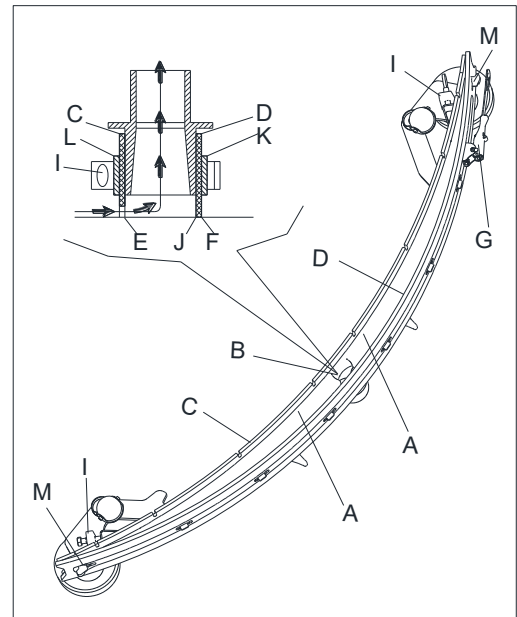
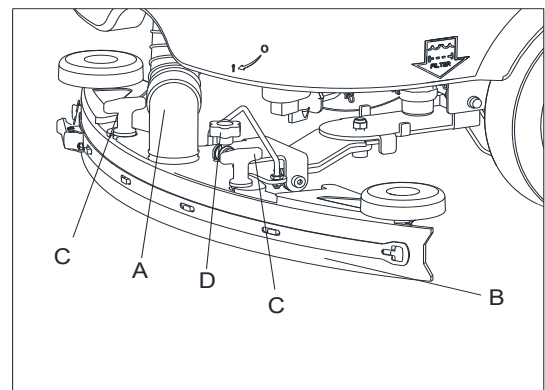

Figure 23
Figure 24
2. Check that the edges (E, Figure 23) of the front blade (C) and the edges (F) of the rear blade (D) lay down on the same level, along with their length; if necessary adjust their height according to the following procedure:
- Remove the tie rod (G), disengage the fasteners (M) and adjust the rear blade (D), then engage the fasteners (M) and install the tie rod (G).
- Loosen the knobs (I) and adjust the front blade (C), then tighten the knobs.
3. Check the front blade (C) and rear blade (D) for wear, cuts and tears; if necessary replace them according to the following procedure. Check that the front corner (J) of the rear blade (D) is not worn; if necessary overturn the blade to replace the worn corner with an integral one. If the other corners are worn too, replace the blade according to the following procedure:
- Remove the tie rod (G), disengage the fastener (M) and remove the retaining strip (K), then replace/overturn the rear blade (D). Assemble the blade in the reverse order of disassembly.
- Unscrew the knobs (I) and remove the retaining strip (L), then replace front blade (C). Assemble the blade in the reserve order of disassembly. After the blade replacement (or overturning), adjust the height as shown in the previous step.
4. Connect the vacuum hose (A, Figure 24) to the squeegee.
5. Install the squeegee (B Figure 24) and screw down the knobs (C Figure 24).
6. If necessary, adjust the squeegee balance adjusting knob (D Figure 24).